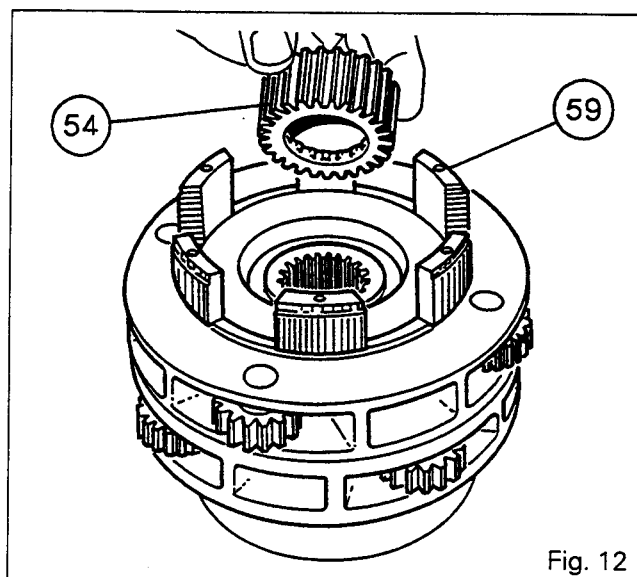

Fig. 12
40. To gain access to bolts (46), turn over the planetary carriers. Fit the secondary sun gear (61), the rear clutch housing (59) and the hub (54) with its internal splines facing downwards (Fig. 12). Fit the rear clutch driving plates (50), the driven plates (48), the backing plate (45) and the Belleville washer /52\ in accordance with Fig. 1, and the cover (47).